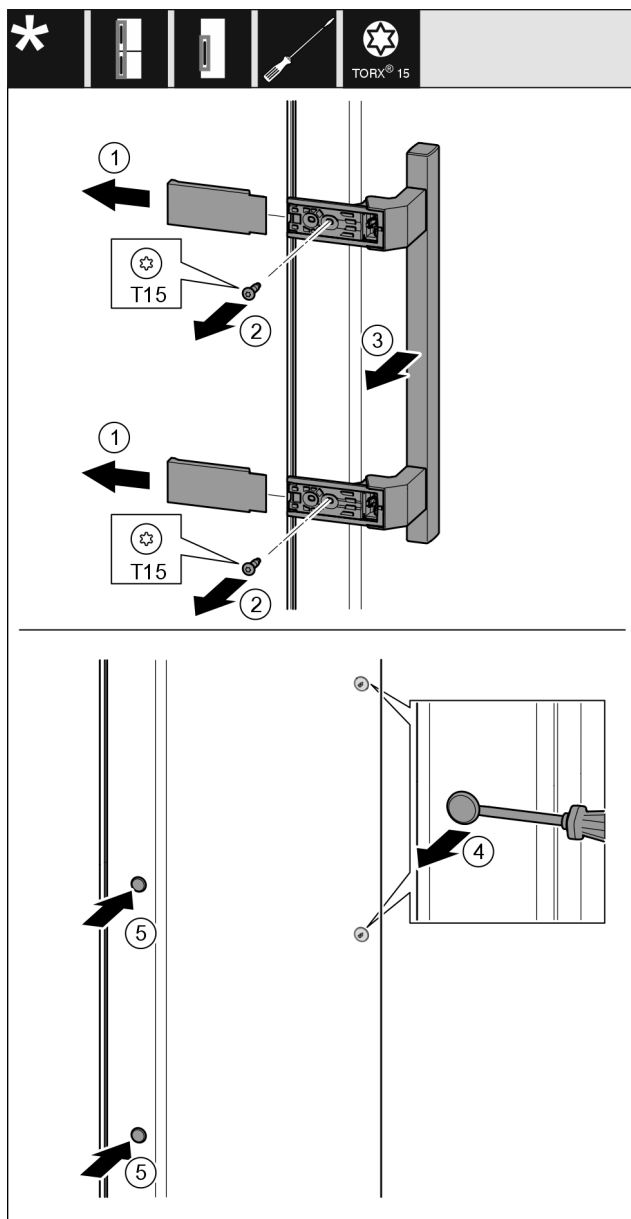

Fig. 54
- Remove the cover Fig. 54 (1).
- Unscrew screws Fig. 54 (2) with screwdriver.
- Remove the handle Fig. 54 (3).
- Use a slotted screwdriver to lift the side plug Fig. 54 (4) carefully and pull it out.
- Re-insert the plug Fig. 54 (5) on the other side.